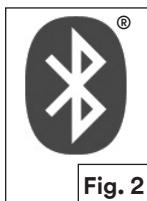

Fig. 2
- Press - button until the GRIND or CUT mode indicator blinks. Then press - and + button simultaneously, the TAP indicator will flash together with the selected GRIND or CUT mode indicator to enter the HAPTIC TAP function (Fig 1a). Haptic tap is now enabled. Tapping on the shield 3 times in a quick tempo will cause the welding filter to change between the selected GRIND or CUT mode and the selected welding shade number (Fig. 2). The TAP indicator will flash upon tapping, tap in a moderate pace until either the GRIND, CUT or SHADE indicator flashes. When TAP mode is enabled, changes can be done between GRIND and CUT as well as changes between shade numbers. To disable haptic tap, make sure that the welding filter is set in GRIND or CUT Mode, press - and + button simultaneously. To check if Haptic tap is disabled, select GRIND or CUT mode, TAP indicator will not flash in any of those modes.